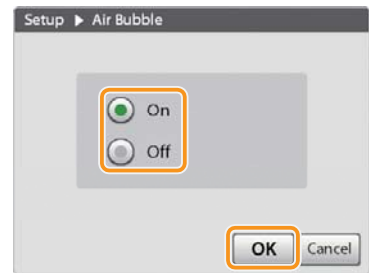

Figure 3-30
- After tapping [On] or [Off], tap [OK] to complete the setting. (Figure 3-30)